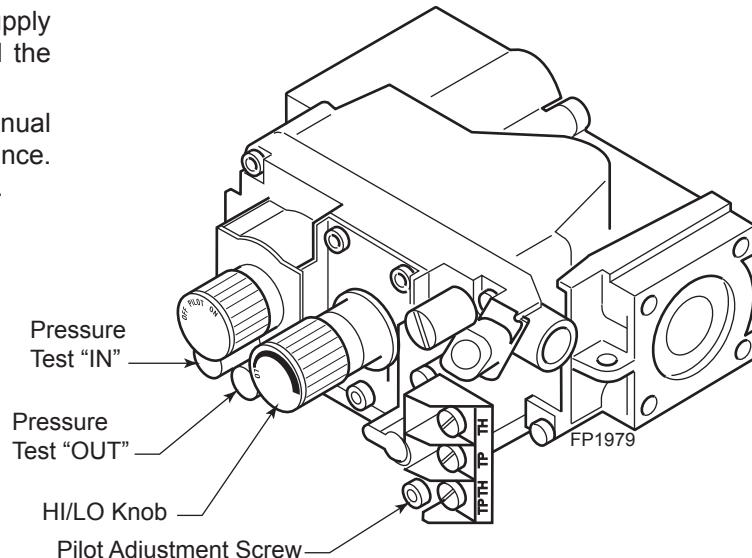

Figure 29 -
5. To check gas pressures at valve, turn captured screw counter clockwise 2 or 3 turns and then place tubing to pressure gauge over test point. Turn unit to high. *Figure 29*. After taking pressure reading, be sure and turn captured screw clockwise firmly to reseal. Do not over torque. Check test points for gas leaks with a soap and water solution.